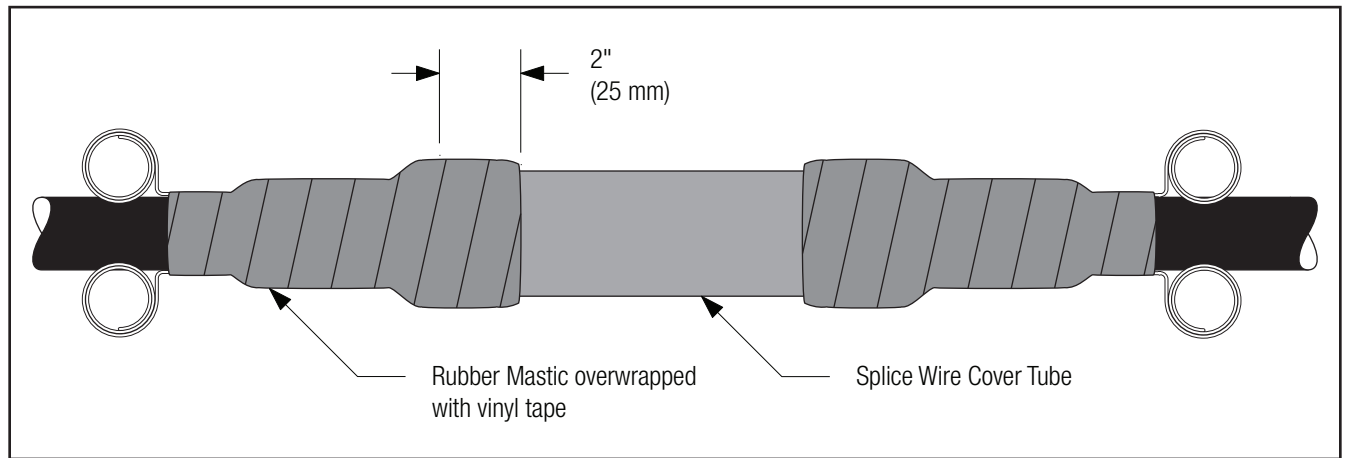

Figure 16
- 6.1 To further enhance protection of splice body from physical damage cover the splice body end seals with Scotch® Rubber Mastic Tape 2228 (not supplied with kit). Beginning 2" (25 mm) on splice wire cover tube apply one half-lapped layer onto the cable semi-con (*Figure 16*).